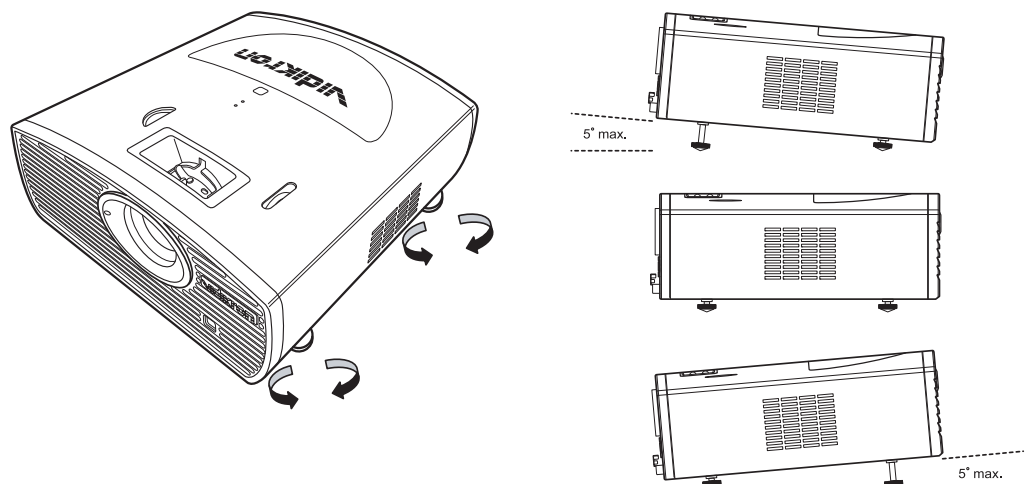

Figure 3-8. Adjusting the Feet
Adjusting the Projector Height or Projection Angle ➤ When the Vision 15 is installed upright, you can adjust the projector height or projection angle by turning the four adjustable feet on the bottom of the projector; see Figure 3-8. This is useful for correcting the angle of projection when the projector is placed on an uneven surface or when the screen is at an angle. You can tilt the projector up to five (5) degrees up or down by adjusting the feet.